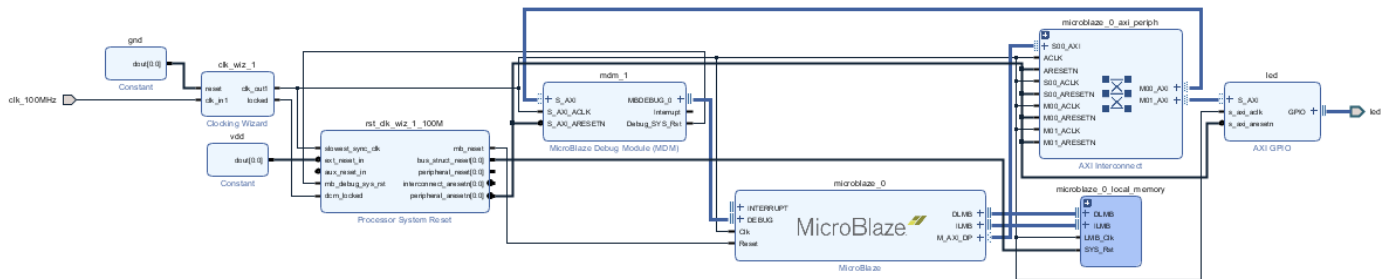

Figure 11: Final Layout
- (o) Right click on the diagram and select 'Regenerate Layout'. The final layout should look like Figure 11.